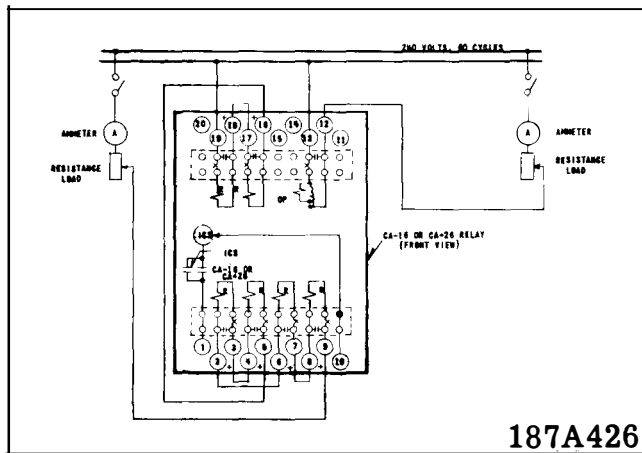

Fig. 11. Diagram of Test Connections for the CA-16 and CA-26 Relays
* Apply 16 amperes to terminals 9 and 19 of the CA-16 relay or 14 amperes to terminals 9 and 19 of the CA-26 relay. The contacts should close when the following operating current is applied to the relay with connections of Fig. 11.
Connect the relay per the test circuit of Fig. 11. Pass 20 amperes for the CA-16 and 14 amperes for the CA-26 relay into terminals 9 and 19 of the relay. Adjust the plug in the operating electromagnet until the contacts just close with the following currents into the operating circuit of the relays.